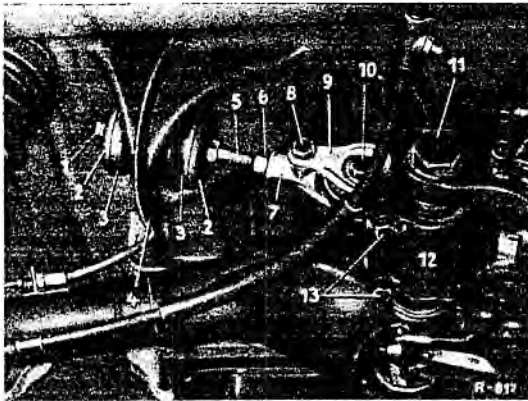

Fig. 35-1/6
- Screw out the hexagon screws (8) and (10) on the front link (9) of the cross strut (5) for the rear axle. Take off the front link, loosen the rear link (7) a little and push the cross strut backward (Fig. 35-1/6).